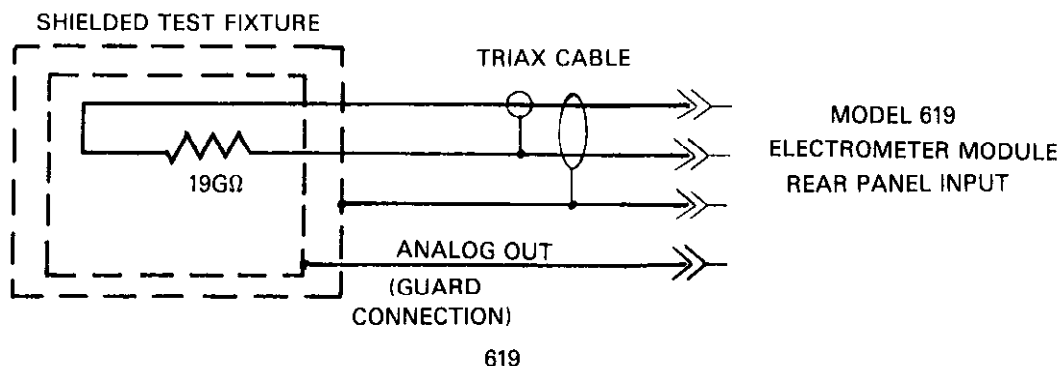

Figure 6-8. Range Calibration, $20\text{G}\Omega$
11. 20GΩ Range Calibration: Calibrate the 20GΩ range see Figure 6-8. Zero Check the Model 619 and uprange to the 20GΩ range. Connect the 19GΩ Calibration Resistor to the input of the Model 619, release the Zero Check, and adjust R655 for a display reading of 19.000 +9 to within ±15 counts.